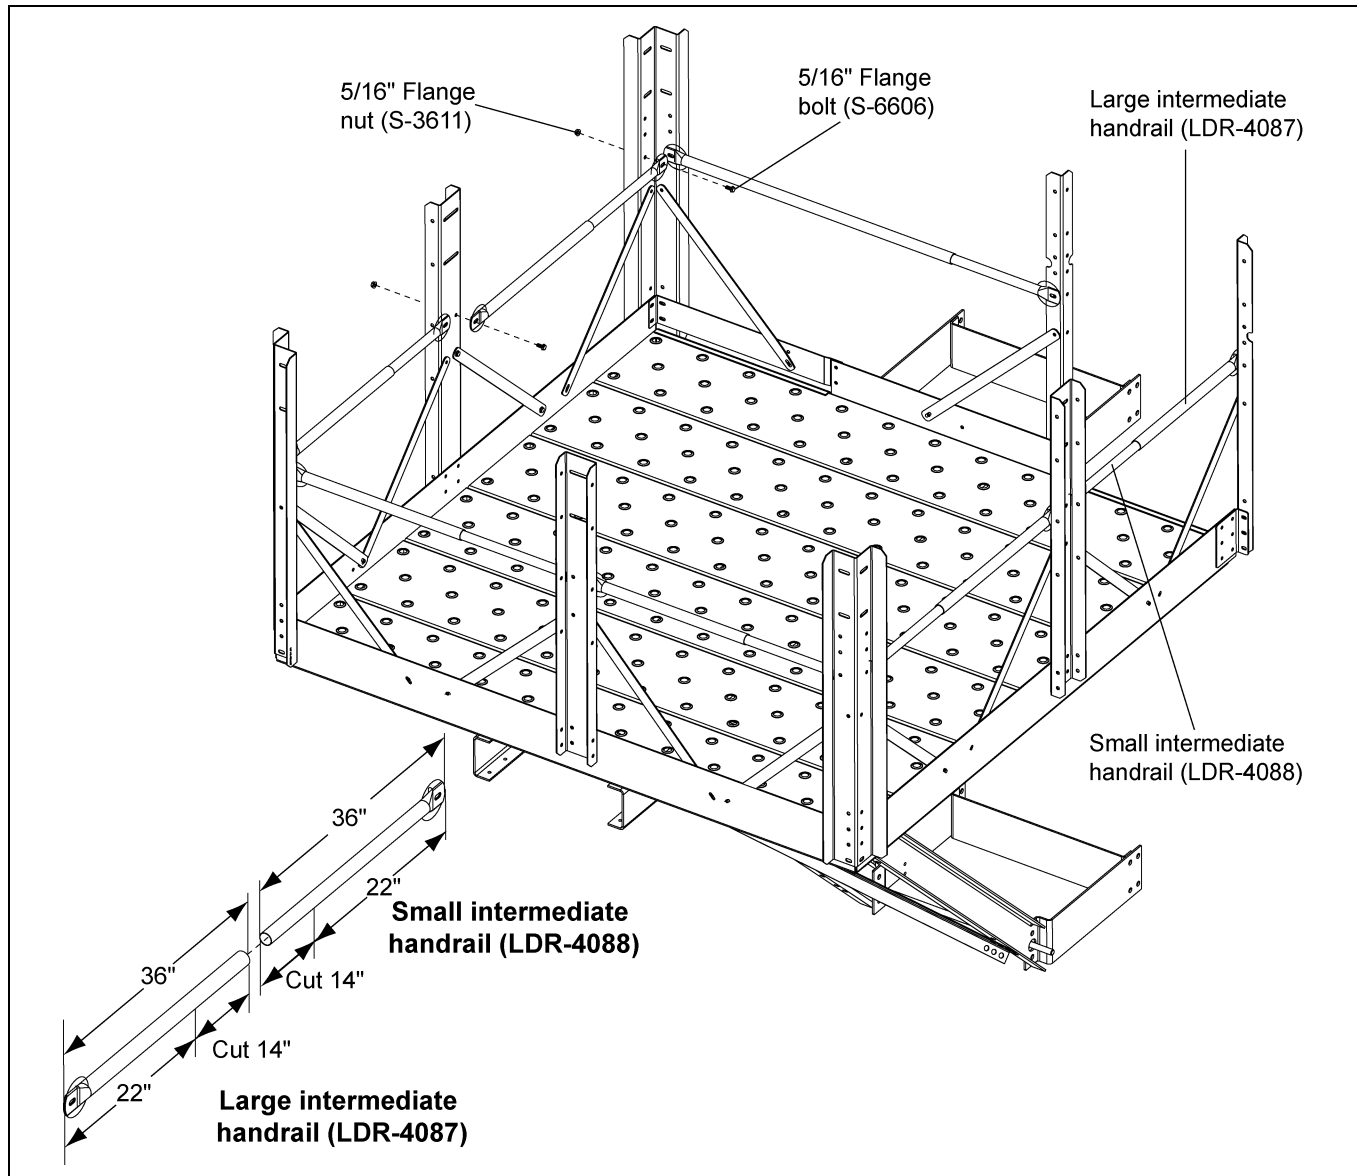

Figure 10L
Trim six (6) large and six (6) small rails by 14" each so that the remaining length of each rail, both small and large is 22". (See Figure 10L.)
1. Install these rails across the platform and the opposite side as shown in Figure 10L.
2. Insert one small rail inside of one large rail and telescope the joined rails from the "W" corner post to the platform post as shown in Figure 10L.